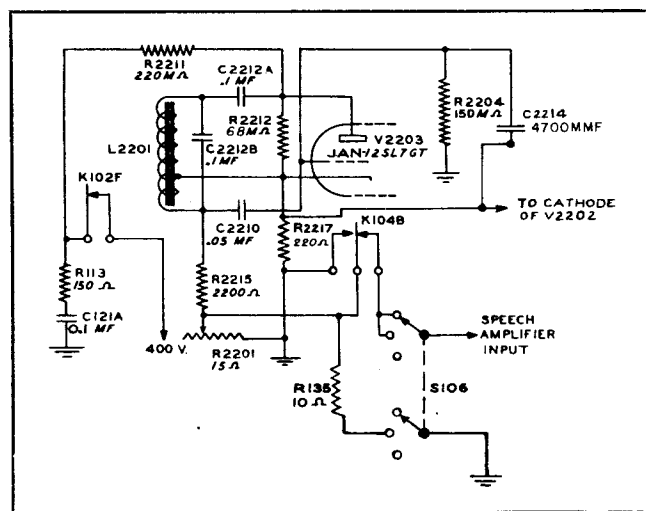

Figure 4-9. MCW Oscillator Circuit
(4) "MCW" OSCILLATOR.—The "MCW" audio tone oscillator utilizes a Type JAN-12SL7GT dual triode tube, V2203. One triode section of this tube is used for the "MCW" audio oscillator and the other triode section is used in conjunction with the CFI Unit which is described in the next paragraph. The "MCW" oscillator is in operation whenever keying relay contacts K102F apply voltage to the plate of "MCW" oscillator tube, V2203, when keying relay K102 is operated (see fig. 4-9). The audio frequency output of the "MCW" oscillator is controlled by varying "MCW" output control resistor R2201. A screwdriver slot for varying resistor R2201 is accessible through a hole at the rear of the "MCW-CFI" Unit. The voltage developed across MCW output control resistor R2201 is coupled to the input of the speech amplifier through "VOICE" relay contacts K104B and the contacts of power level switch, S106. When "VOICE" emission has been selected, "VOICE" relay contacts K104B disconnect the output of the "MCW" oscillator tube, V2203, from the input circuit of the speech amplifier. During periods of "CW" transmission the "MCW" oscillator is keyed and the output is fed to the input of the speech amplifier. The output of the sidetone amplifier provides a means of monitoring the keying.